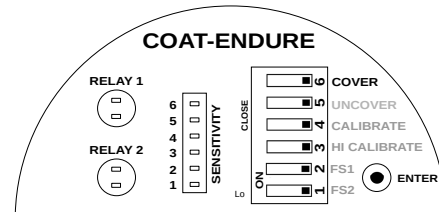

Figure 19: Saving Cover Delay
- Cover delay is entered, but not saved. To save and test the cover delay, set the COVER switch back to OPEN position as shown in Figure 19.